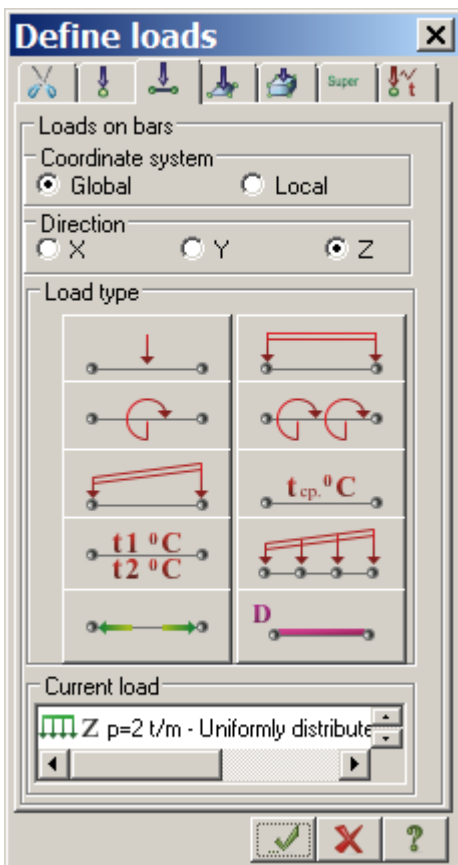

Figure 3.18 Define loads dialog box
- ⇒ In the **Define loads** dialog box (see Fig.3.18), specify **Global** coordinate system and direction along the **Z**-axis (default parameters).